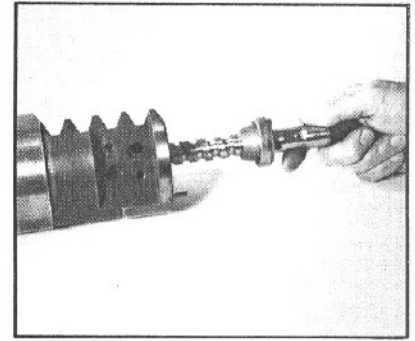

Figure 99
5. If more than 10 minutes have elapsed since you installed the worm shaft seal and ring, grease the sealing surface inside the rack piston (31) and install the worm shaft/input shaft (17) assembly into the rack (FIG. 99).